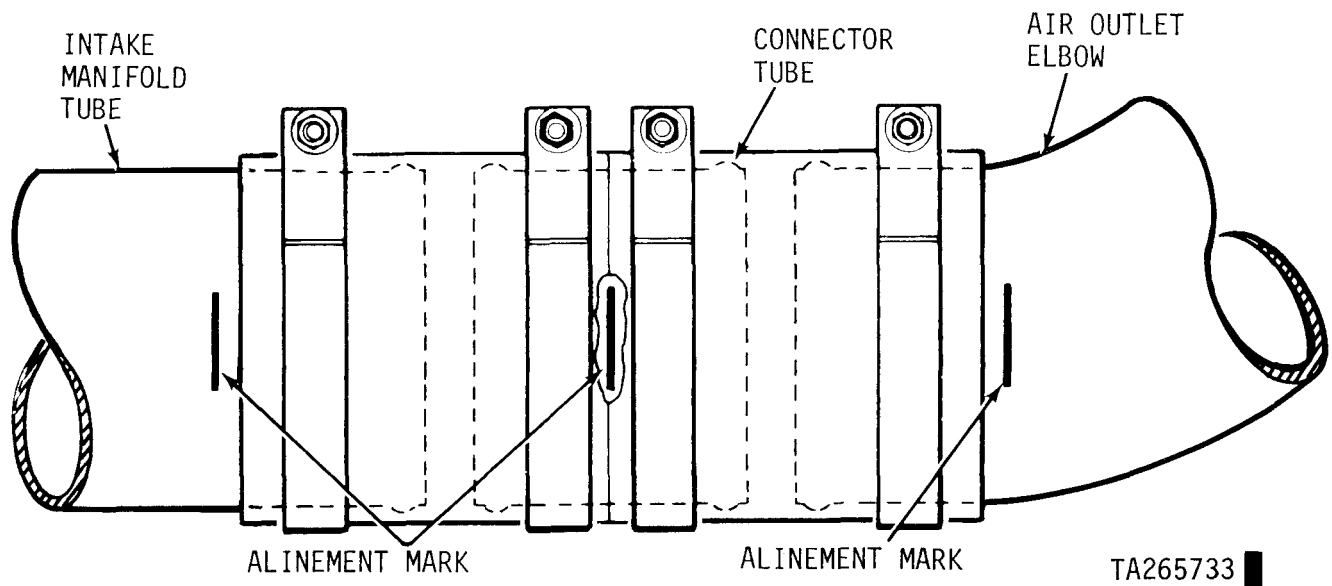

Figure 2-82.1. Alinement of intake manifold and hoses.
(4) Install four hose clamps (1) loosely on two hoses (2). Install both hose assemblies on connector tube (5). Butt the hoses together at the alignment mark on the connector tube (fig. 2-82.1).